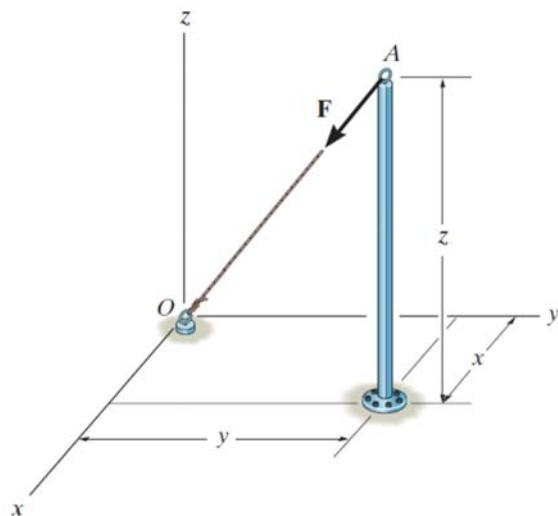

Figure Q1[a]
- Q1 [a]** The cable AO exerts a force on the top of the pole of $F = \{-120i -90j -80k\}$ N, as shown in Figure Q1[a]. If the cable has a length of 34 m, determine the height z of the pole and the location (x,y) of its base.